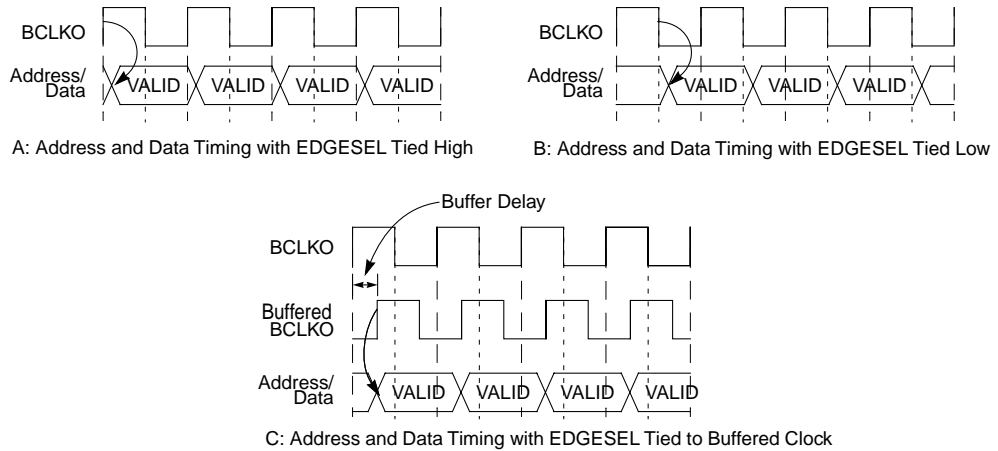

Figure 11-14. Using EDGESEL to Change Signal Timing
Figure 11-14 shows the output wave forms for the interface signals changing on the rising edge (A) and falling edge (B) of BCLKO as determined by whether EDGESEL is tied high or low. It also shows timing (C) with EDGESEL tied to buffered BCLKO.